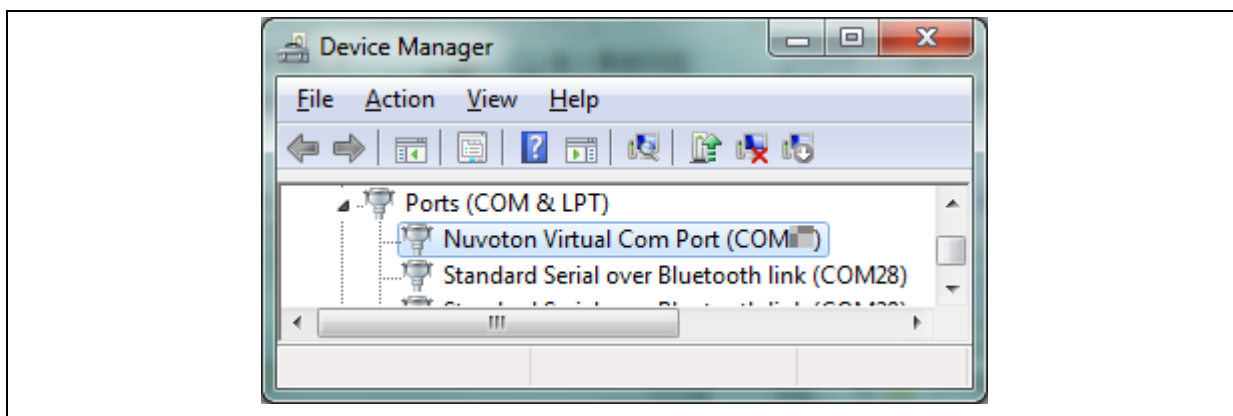

Figure 3-5 Device Manger
3. Find the “Nuvoton Virtual COM Port” on the Device Manager as Figure 3-5.